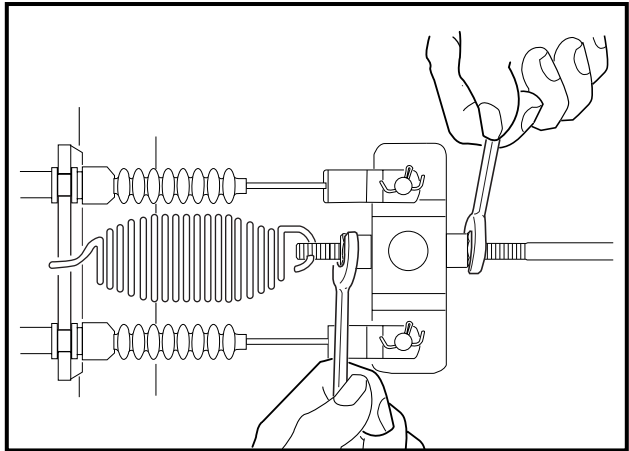

Figure 6-2 Loosen Front Brake Equalizer Nuts
4. Loosen the front brake equalizer (**Figure 6-2, Page 6-2**).